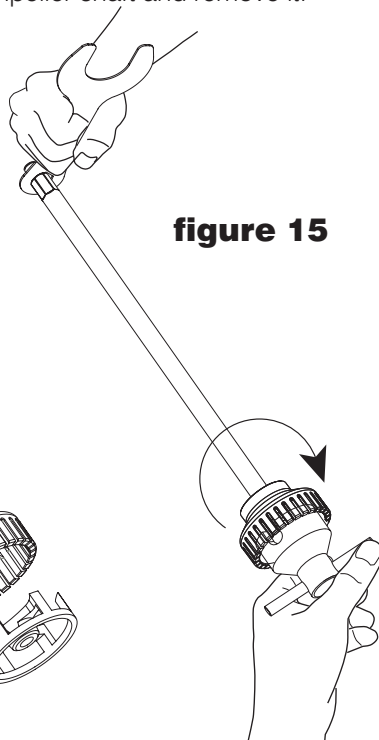

figure 15
- To open the impeller, the other end of the spanner on the end of the impeller shaft. Then insert the blade key provided. Turn the key on the impeller in the direction shown, holding the spanner on the shaft still. Loosen it slightly, without removing the blade. (Fig.15)